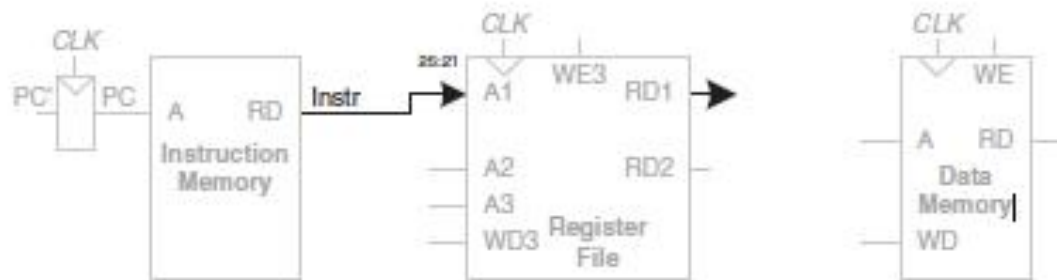

Figure 7.3 Read source operand from register file
- For a lw instruction, the next step is to read the source register containing the base address. This register is specified in the rs field of the instruction, Instr25:21. These bits of the instruction are connected to the address input of one of the register file read ports, A1, as shown in Figure 7.3.